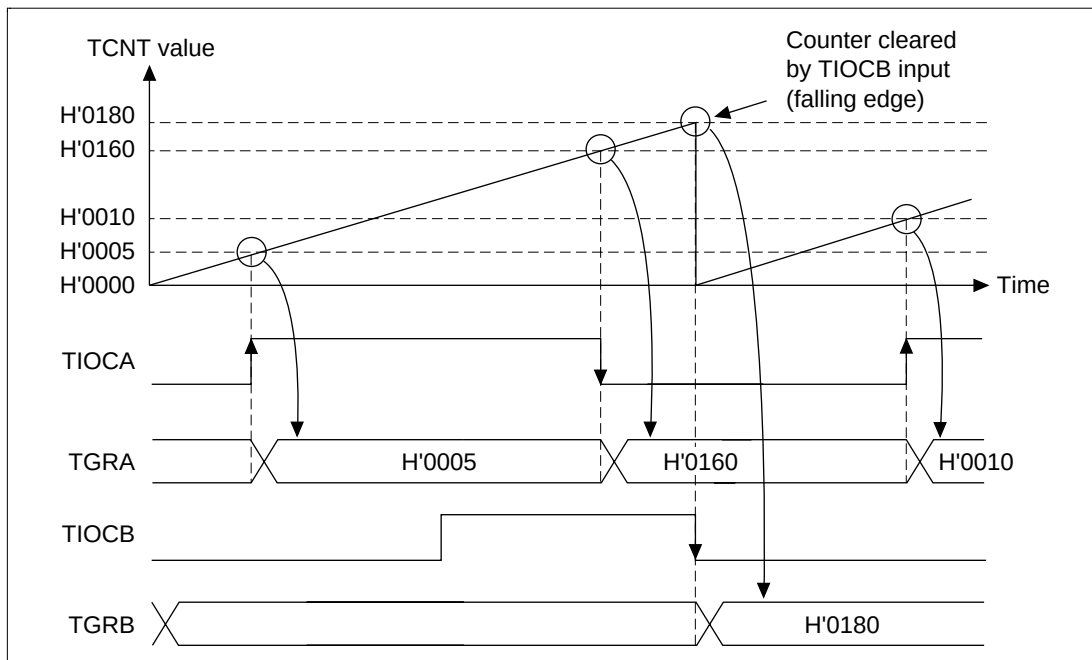

**Figure 12.14 Input Capture Operation**
**Input Capture Operation:** Figure 12.14 shows input capture. The falling edge of TIOCB and both edges of TIOCA are selected as input capture input edges. In the example, TCNT is set to clear at the input capture of the TGRB register.